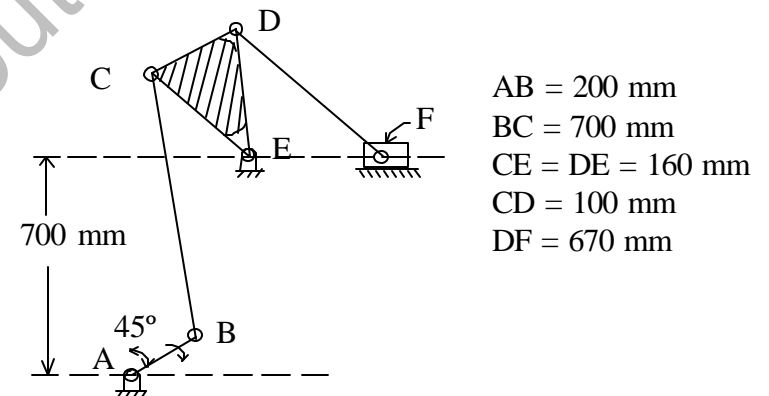

Fig. 3.1
3. The crank AB of the mechanism shown in Fig. 3.1 is rotating with a speed of 30 rpm clockwise.